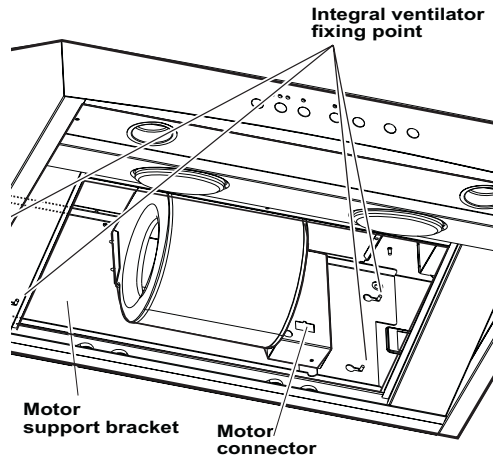
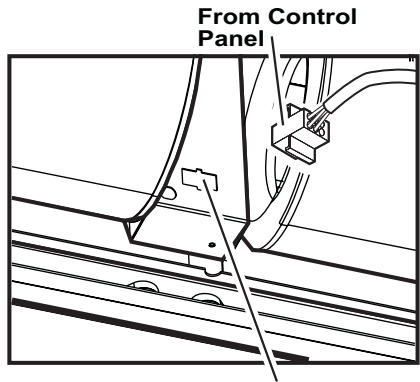

Figure 9
Figure 10 Motor connector VTN 420 or VTN 620
INTEGRAL VENTILATOR INSTALLATION (Models VTN420B or VTN620B) (see figure 9)
1. Connect the Integral Ventilator moxlex plug connector to the connector present inside the hood as shown in **Figure 9** or **Figure 10**.